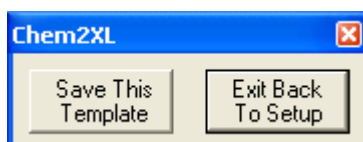

Figure 10: Saving the Chem2XL Template
9. After editing the template is complete, save the template. To do this, press the Chem2XL "Save This Template" button (see Figure 10). By pressing this button, the template will be properly saved in the template directory. Saving to the Excel file/save will not allow Chem2XL to use the template properly. After editing is complete, save the template by clicking "Exit Back to Setup" which will save and close the template (see Figure 10). "Quit" the Chem2XL Setup Wizard.